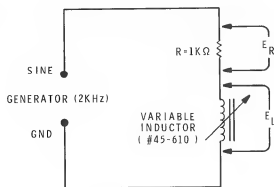
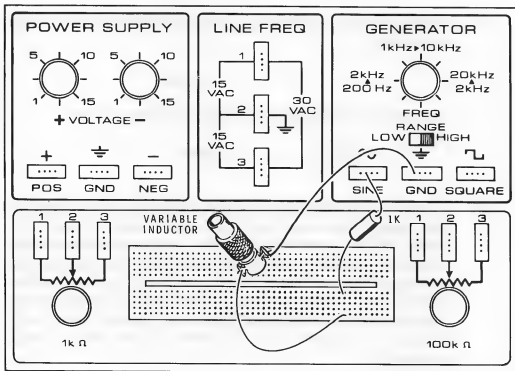

Figure 2-76
Figure 2-77
2. Wire the circuit shown in Figure 2-76. Connect a 1 k Ω resistor in series with the variable inductor. The sine wave generator on your ET-3100 will be used as the signal source. Refer to the pictorial drawing in Figure 2-77. You will use this circuit to measure the value of the inductance and demonstrate how the inductive reactance varies with changes of inductance and frequency.
for circuit in Figure 2-76.